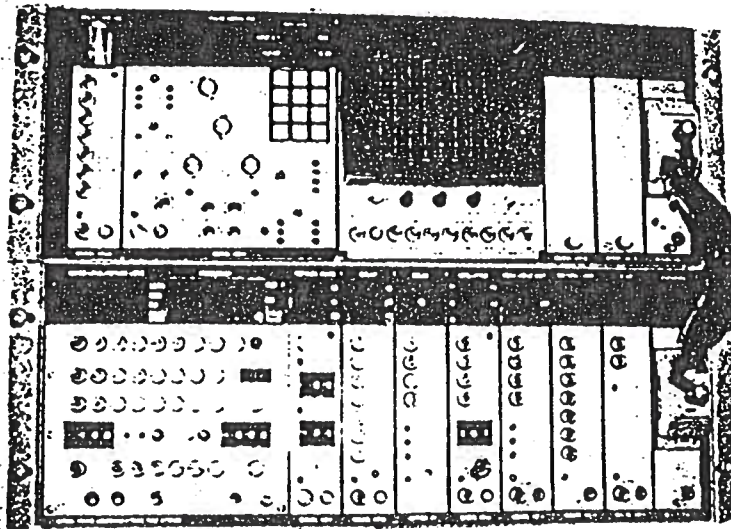

Figure 19, Hekimian 3901M Test Set
- a. Hekimian 3901M Test Set (figure 19)